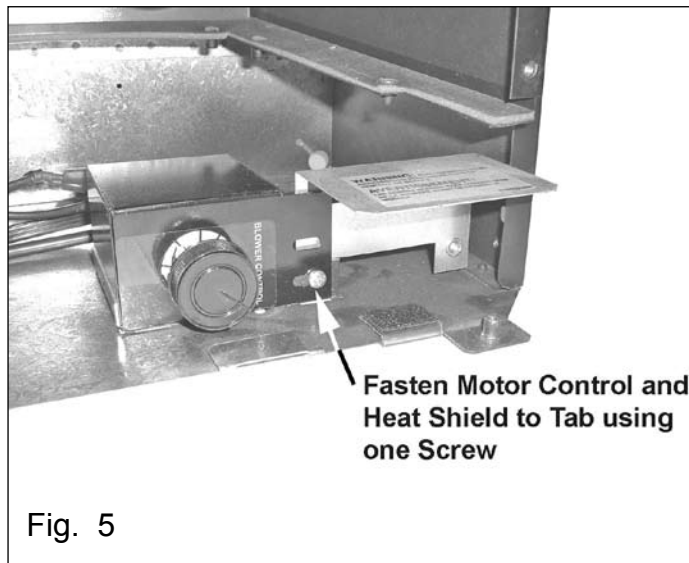

Fig. 5
- Fasten Motor Control and Heat Shield to single tab (see Fig. 5).